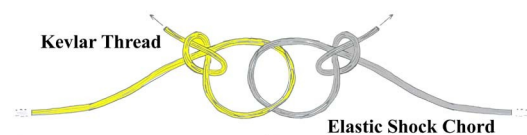

Figure 9
- **Step 14** Loosen the free end of the Kevlar thread and push the thread back through the motor mount, through the body tube, and out the top end. Tie a slip-knot loop in the free end, as close to the end of the thread as possible. Push one end of the elastic shock chord through this loop, as shown, and tie a slip-knot loop in it. See Fig. 9. Pull the two knots tightly together, and coat the knots with thinned glue. Allow to dry.